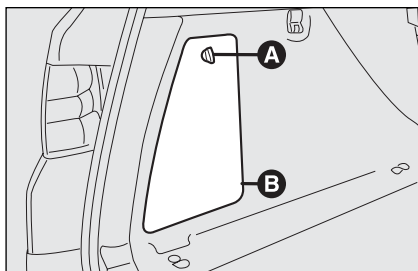

fig. 36
- ☐ turn the handle **A**-fig. 36 to open the door **B**;